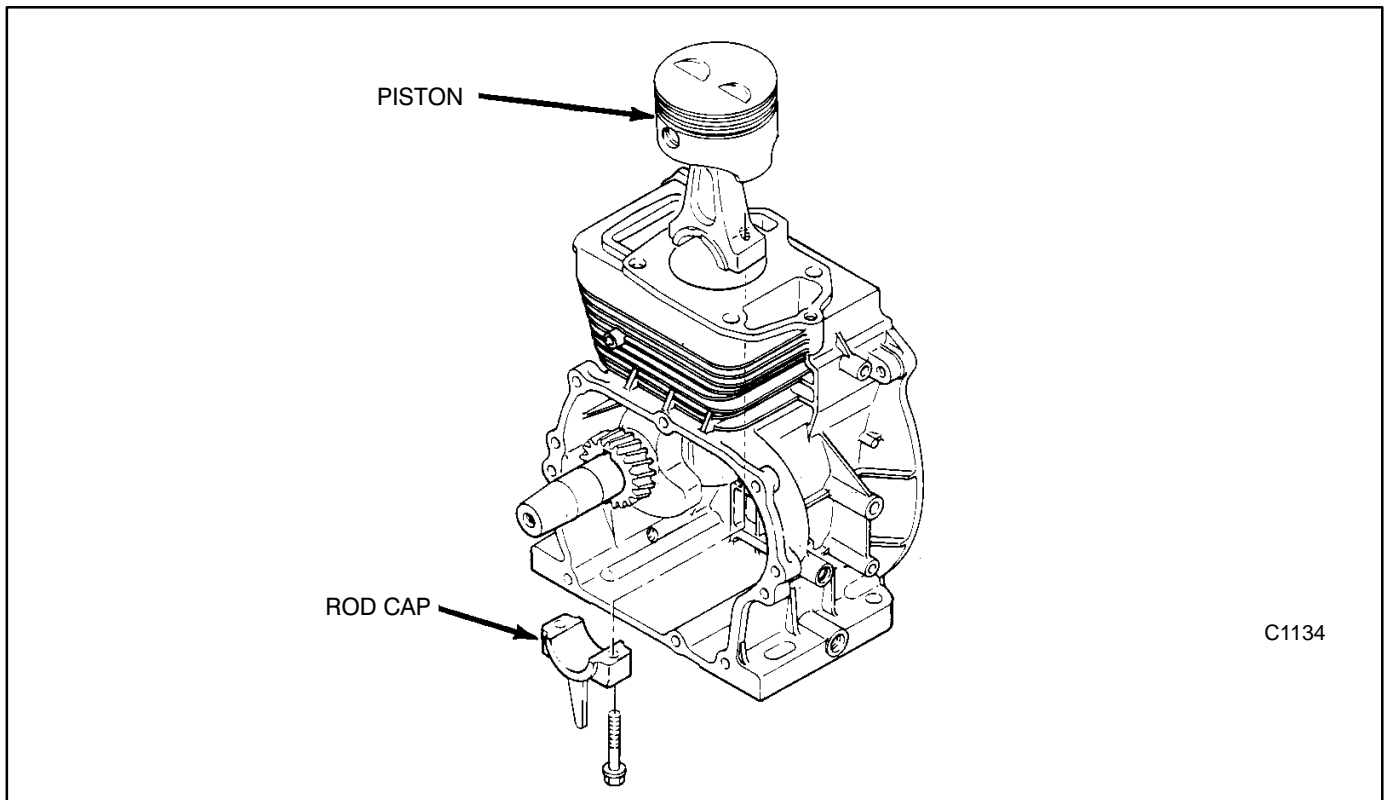

FIGURE 9-8. PISTON REMOVAL
2. Lift the rod cap from the rod and push the piston assembly through the top of the cylinder (Figure 9-8). Be careful not to scratch the crankpin or the cylinder wall when removing.